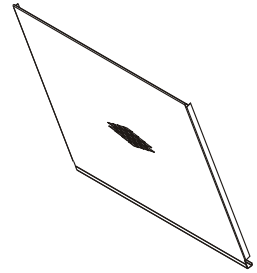

Figure 2
Lay Hail Guard Diamond Cut (B) on flat surface with bends facing upwards. See Figure 2.